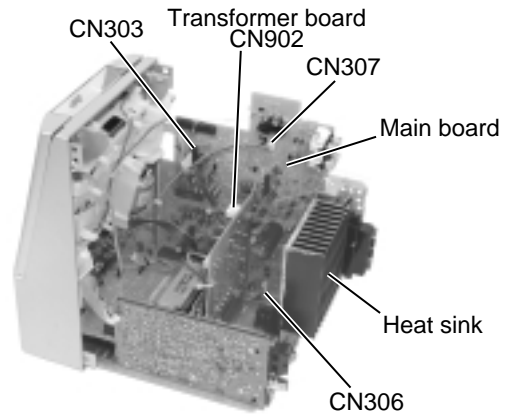

Fig.7
■Removing the main board / the heat sink (See Fig.7 to 9)